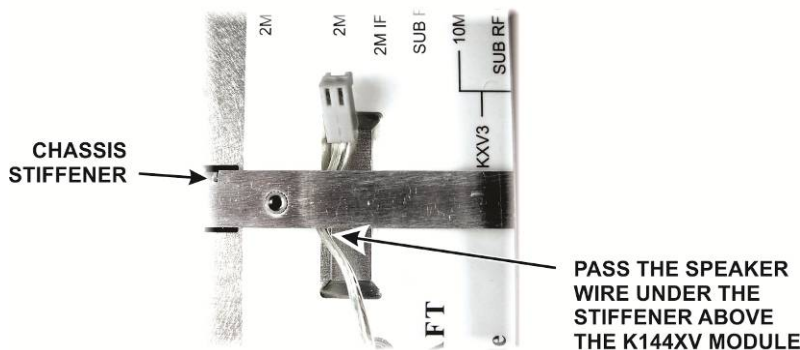

Figure 15. Routing the Speaker Wire Under the Chassis Stiffener.
- If you have the K144XV option installed, hold the top cover above the K3, route the speaker wire under the stiffener bar at the depression in the top of the K144XV module as shown in Figure 15.